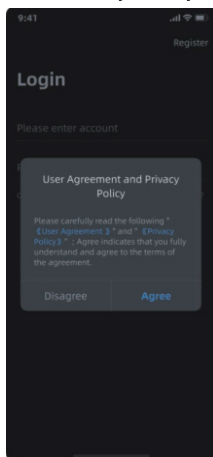

Figure 1
- 1)Figure 1: Unregistered users click on "**Register**" on the login page, Unregistered users click "Register" on the login page, read the agreement, click "Agree" and proceed to the next step.